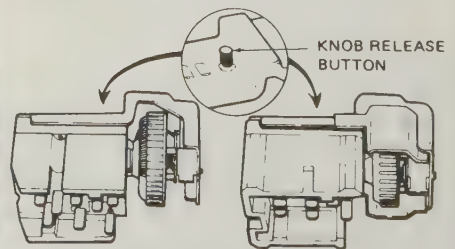

Fig. 10.16. Lighting knob removal button (Sec. 20)
- 2 Working through the access hole in the underside of the instrument panel, press the release button using a small screwdriver (Fig. 10.16) and remove the switch knob and shaft.